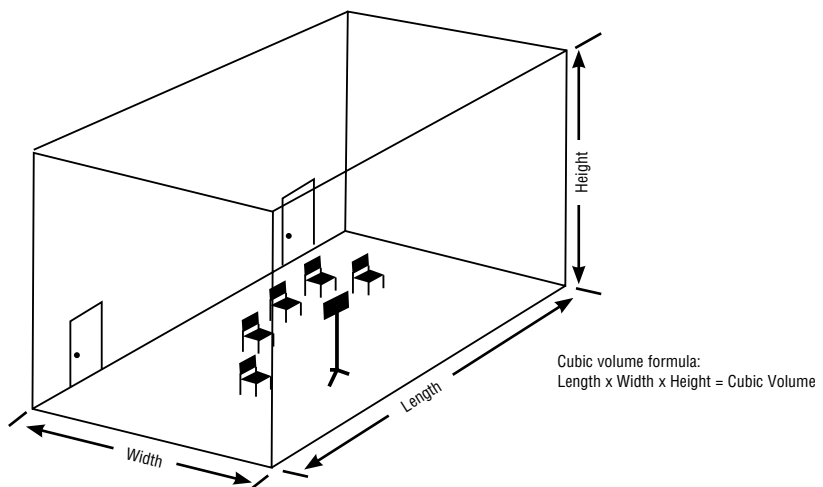

FIGURE 12
- Check your room's size, the crucial measurement is cubic volume — square footage multiplied by ceiling height (figure 12). Even if your room seems big, make sure it isn't all floor space — your ceilings should be at least 16' high. Compare with Wenger's rule-of-thumb guidelines (table 1), and make sure to factor in the size of your ensembles.